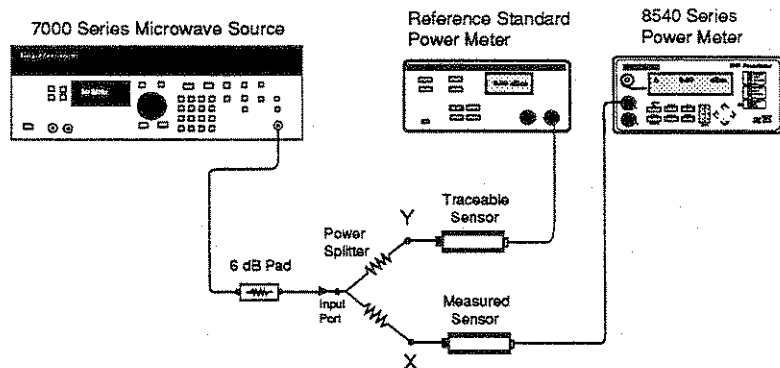

Figure 12. Comparing the accuracy of two power meters.
1. Connect as shown in Figure 12 and adjust the source frequency to a standard reference frequency. For power meters this is usually 50 MHz.